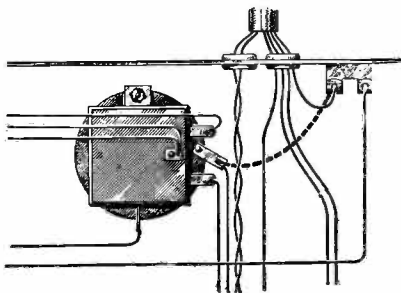

Fig. 2. Wiring change for altering the action of the dual volume control. The dotted line indicates position of new wire
The automatic volume control heretofore described is so designed that it maintains a constant output only on signals in excess of 100 microvolts. In most locations this action is entirely satisfactory, as stations rarely drop below this value. However, if the receiver is to be operated in a locality remote from stations where the usual signal intensity is low, a slight change may be made in the receiver chassis that will extend the AVC action to signals of a much lower input. This may be done by removing the chassis and connecting a wire from the terminal on the 400-ohm section of the volume control to ground, as shown in Fig. 2. It should be remembered that this change will greatly increase the noise level between stations, due to the secondary section of the volume control not being in the circuit.
Fig. 2. The nine diagrams grouped above supply the color coding and values of the major units in the new Stromberg-Carlson receiver chassis. These diagrams will assist you in tracing circuits. The units marked X in diagrams (G) and (H) are the trimmer condensers for the intermediate-frequency transformers
The small diagrams grouped together in Fig. 2 readily indicate the color coding of the leads from the most important units. Where it is essential the values of the units are also given.
The small unit diagrams grouped in Fig. 2 are marked A, B, C, etc. When working under the chassis of a Model 38, 39 or 40 most of the units will be located without much difficulty, and when necessary the color coding can be picked up from Fig. 2 and traced through under the chassis. But, here are a few reference points for your convenience: When viewing the underside of the chassis, with the front end above, the voltage divider will be found mounted on the upper left edge of the chassis frame. The terminals of condenser block B are just to the right of the voltage divider. Terminals of condenser block C are approximately in the center of the chassis base, and resistor strip D is just to the left of this condenser block.